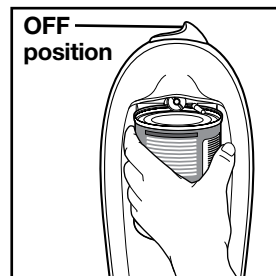
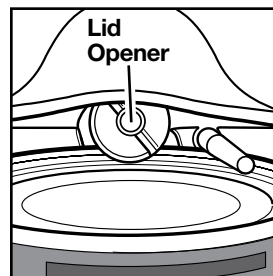

Figure 1
Figure 2
3. ON/OFF Switch must be in OFF position. See Figure 1. Place rim of can up and under lid opener. See Figure 2.